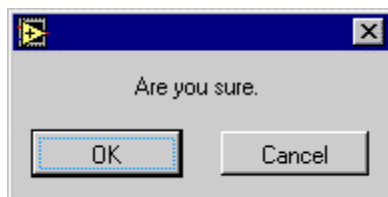

Figure 6-26. Delete User Confirmation Dialog Box
- **Delete User** — Click to delete the selected user name in the **User** list. A message box asks for confirmation of your intention to delete the user (Figure 6-26). Click **OK** to delete the user from the user table, or click **Cancel** to cancel the deletion operation.